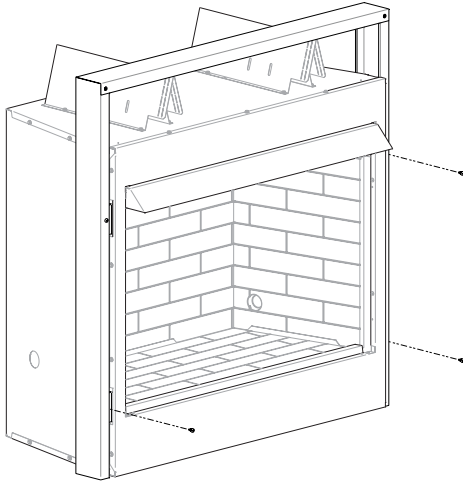

Figure 9
- Slide the fireplace into position inside the metal studs. Secure the fireplace to the metal studs with four #10 pan-head screws as shown in Figure 9.